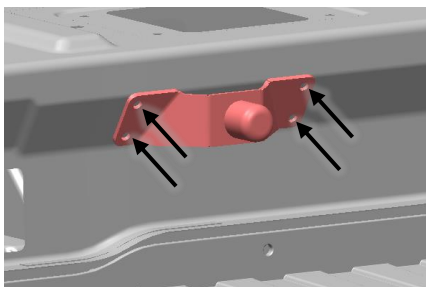

Figure 42: Installation with Self-Tapping Screws
32. Install bump stop assembly using #14 self-tapping screws (70726) through pre-drilled locations (Figure 42).